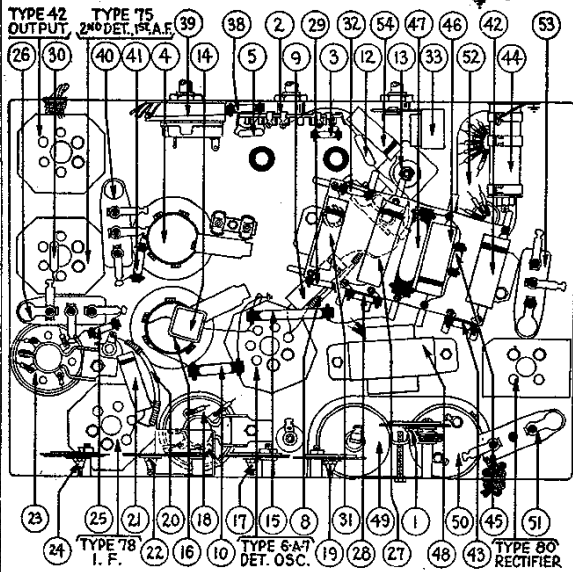

Fig. 4—Base View
(1)—I. F. (Intermediate Frequency)—Remove grid clip from cap on 6A7 tube and connect antenna lead from signal generator to cap of tube. Connect ground lead to ground post on set. Turn on set and signal generator; set wave switch of latter to 460 K. C. (the I. F. of Model 66) and dial of set at 540, wave band switch to left. Adjust each of the four I. F. compensating condensers (7, 10, 12 and 14) in turn so that maximum reading is obtained in the output meter. If the meter reading goes off scale, adjust the attenuator on the signal generator so as to get a lower reading. These I. F. condensers (visible in Fig. 4) are adjusted by inserting the
(2)—WAVE TRAP—Replace grid clip on cap of 6A7 tube and connect antenna lead from signal generator to antenna post on set. Set signal generator at 460 K. C. and adjust wave trap (1) so as to get MINIMUM reading in output meter.
(3)—ANT. and OSC. H. F.—These adjustments (7 and 11) are located on top of the tuning condenser assembly at right (facing front of set) and adjusted from above. The "ANT" (7) is nearest front of set. Set signal generator at 1700 and dial of set at 1700 and adjust these two condensers to get maximum output meter reading.
(4)—OSC. L. F.—This condenser (10) is located underneath chassis (see Fig. 4) and is reached from underneath. Set dial of set and signal generator switch at 600, and adjust for maximum reading.